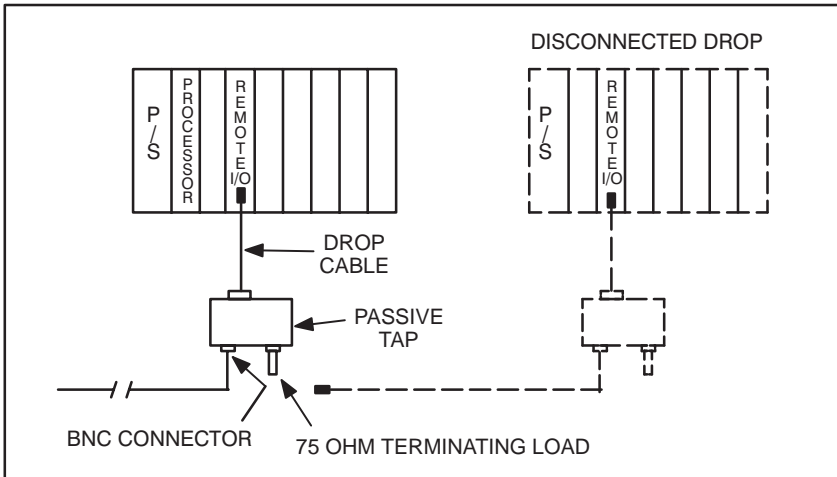

Figure 3.28 - Disconnecting an End Rack Drop from the Remote I/O Network (Coax)
- Step 2. To disconnect a drop from the end of a network, refer to figure 3.28 and use the procedure below: